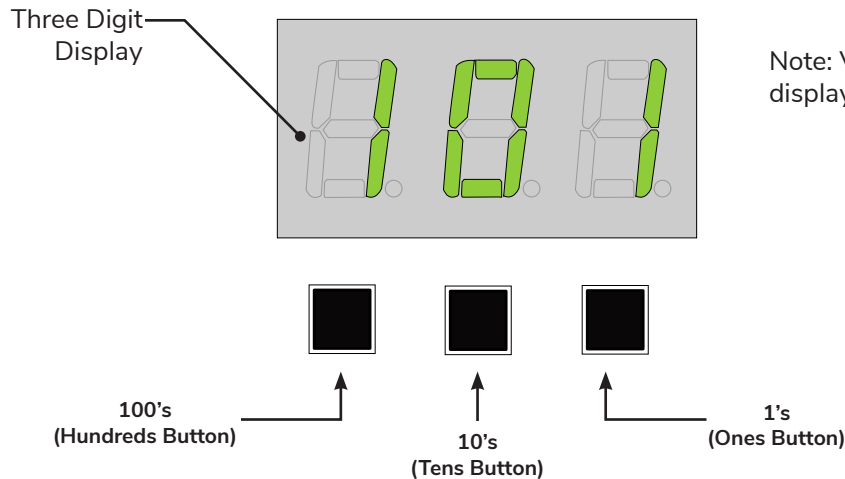

Figure 10: LED Screen and Buttons
2. Wait a few seconds and a conformation display will appear with a question mark (P) in the hundreds digit and the Personality in the next two digits as illustrated in **Figure 10**. This is to confirm (or reject) the Personality shown.